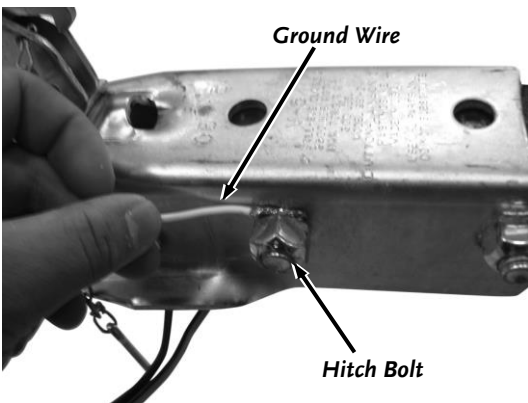

Figure 16
16. Remove the Ring Terminal from the end of the White Ground Wire with Wire Cutters (**Figure 16**).